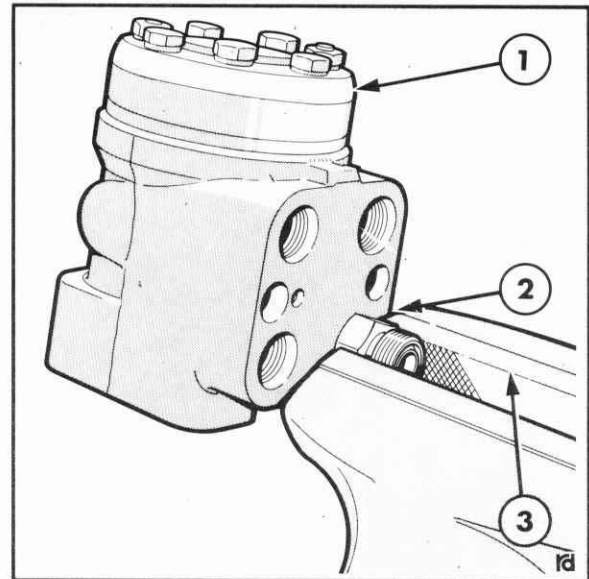

Figure 7-23
1. Invert the steering motor and remove the seven end plate securing bolts, Figure 7-23.